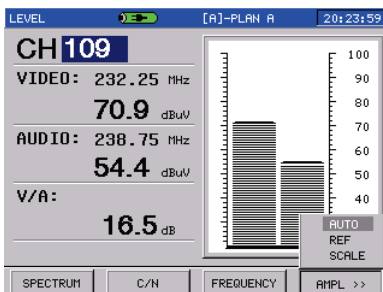

Figure 3-4-6
**AMPL(F4):** Press AMPL soft key and choose **REF** or **Scale** to change, Also choose **AUTO** to make the meter automatically adjust to the best state, as Figure 3-4-6.